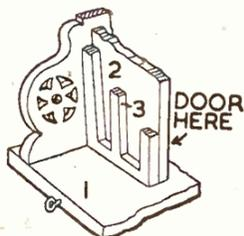
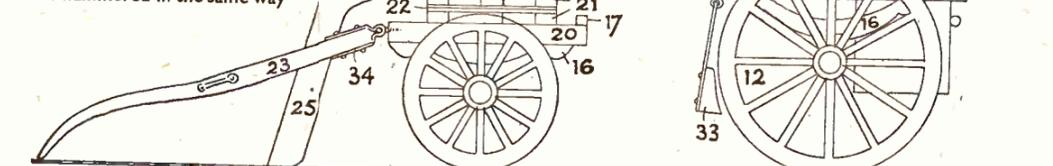

Fig. 2—Front and overlay detail
Fig. 1—Side view of the caravan
It is constructed mainly of wood and card, and, when finished in gay colours, makes a realistic model. Its length is 12 ins. and height 7 ins. The thicknesses of the wood used vary between $\frac{1}{8}$ in. and $\frac{1}{4}$ in. A general idea of its construction can be gained from Fig. 1.
Glue the overlays to the sides and back and front, and, when these are quite dry, the main shell of the body can be assembled, being glued and pinned. Reference to Fig. 2 will show how the sides, front and bottom are butted together. Remember to slightly chamfer the bottom and top edges of the sides so that they fit correctly.
to make the harness guides shown on the sides of shafts in Fig. 1. These having been fixed, you can make the hinges (34) shown 'in the flat'
The complete steps are easily assembled, glue being sufficient to hold them securely. Two screw eyes are placed at the front of the floor of the caravan (one is shown in Fig. 2), to hold the steps in the position shown in Fig. 1.